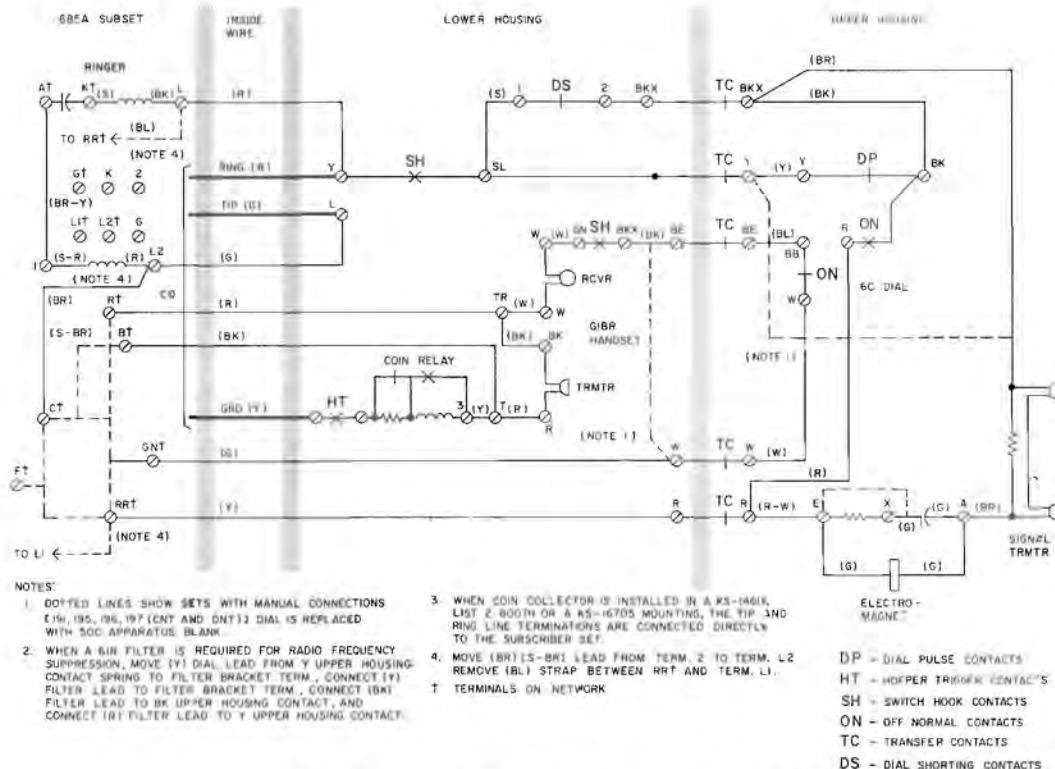

Fig. 23—Prepay Network-Type Coin Collector Circuit
5.01 The talking circuit is the same as the one used in conventional telephones, except for the addition of two signal transmitters and an electromagnet in series in the primary circuit, as shown in Fig. 23.
5.29 The coin-relay switch assembly consists of two pairs of spring contacts (see Fig. 23). One pair, which is normally open, closes when the trigger is tripped by a deposited coin and connects ground through the coin-relay winding to the tip side of the line. The connection to the tip side of the line is made through the center tap connection of the network or induction coil. This balances the talking circuit to ground and prevents excessive inductive noise interference.